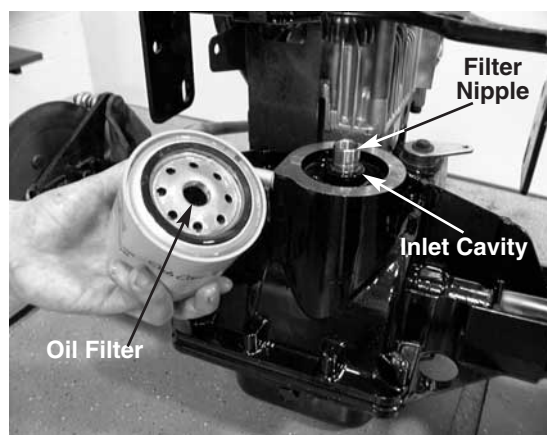

FIGURE 4.
5. Remove the hydro oil filter from the transmission and check for contamination in the filter, filter nipple, and the inlet cavity. See figure 4.